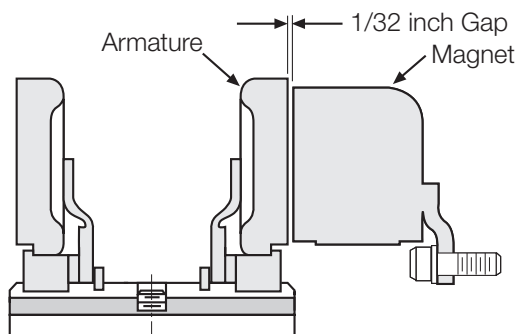

Figure 7
2. Position the assembly so that the face of the armature is about 1/32-inch from the magnet face. (Figure 7)